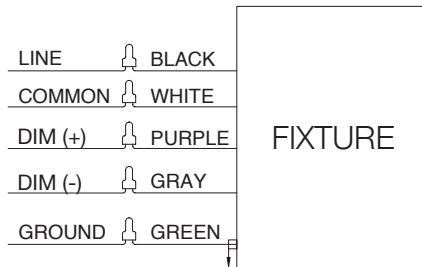

Fig. 7
**CAUTION:** Turn the power off at the fuse or circuit breaker box before beginning. Universal voltage driver permits operation at 120-277V (120-347V optional), 50 or 60 Hz. 0-10V control wires must be rated for 300V minimum (If 120-347V product, choose 600V wire). For 0-10V Dimming, follow the wiring directions as shown in Fig. 7.